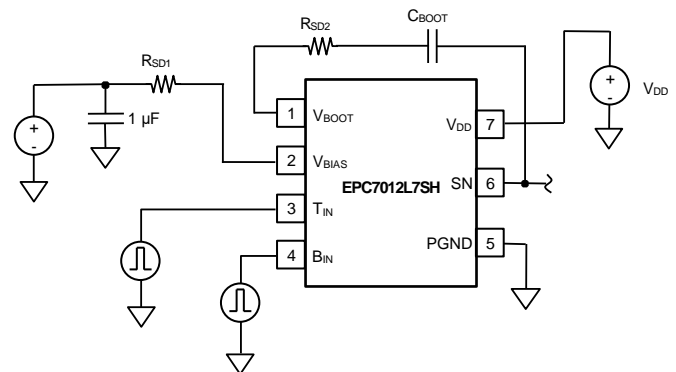

Figure 3. External Damping Resistor Connections
The EPC7012L7SH is designed to be a high-speed power driver. As such it has extremely fast switching node (SN) rise and fall times by design. Fast rise and fall times can and will result in unwanted voltage spikes at the V_{DD} and PGND pins due to any parasitic layout inductance ($V_{SPIKE} = L_{PAR} \cdot di / dt$). If these spikes cannot be reduced to an acceptable level through PCB optimization, two resistors may be added to provide the necessary damping to the local supply loop. These resistors, R_{SD1} and R_{SD2} are shown in Figure 3.